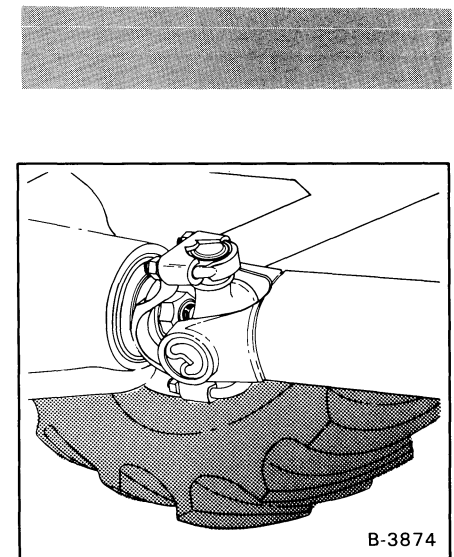

**Fig. 1-40** Rear Axle Check Plug
- (1) Put the Bobcat Forklift on a level surface, lower the vertical mast and stop the engine.
- (2) Remove the check plug on the covers of the axles (Fig. 1-39, Item 1 and Fig. 1-40, Item 1).
- (3) The oil must be at the check plug hole. If it is not, add the correct oil through the check plug hole until it flows from the check plug hole. Add limited slip additive (GM P/N 1052358) to the rear axle.
- (4) Install the plug and tighten.